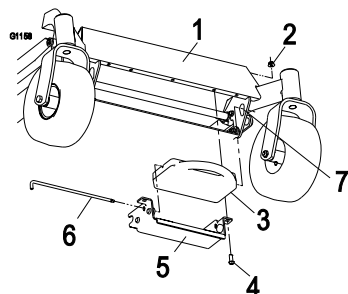

Figure 4
1. Attach the weight support assembly (item 5) to the front panel foot rest with two 3/8-16 x 1 button head screws (item 4) and two nyloc nuts (item 2) as shown in Figure 4.